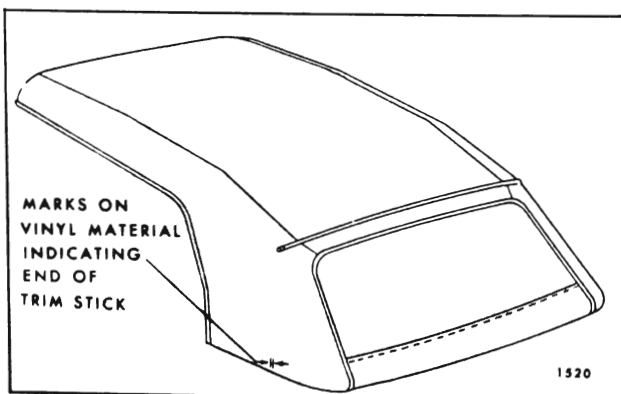

Fig. 13-49—Marking Top Material
8. Using a pencil, mark both ends of rear and rear quarter trim sticks on vinyl surface of top material (Fig. 13-49).